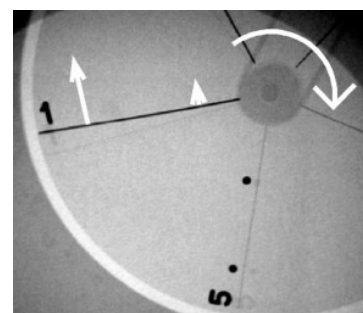

Figure 5. Motion target
- **Visibility of moving structures:** A rotating spoke target allows visual evaluation of motion unsharpness and the effects of temporal averaging. The device contains five steel wires of different diameters (0.022 in, 0.016 in, 0.012 in, 0.009 in and 0.005 in or 0.56 mm, 0.41 mm, 0.30 mm, 0.23 mm, 0.13 mm). Two lead dots are used to evaluate lag and recursive filtering. Rotation speed is 30 revolutions/min. The linear velocity of the outer lead dot is 200 mm/sec. The rotating disk replaces the central test plate at the isocenter. See Figure 5.